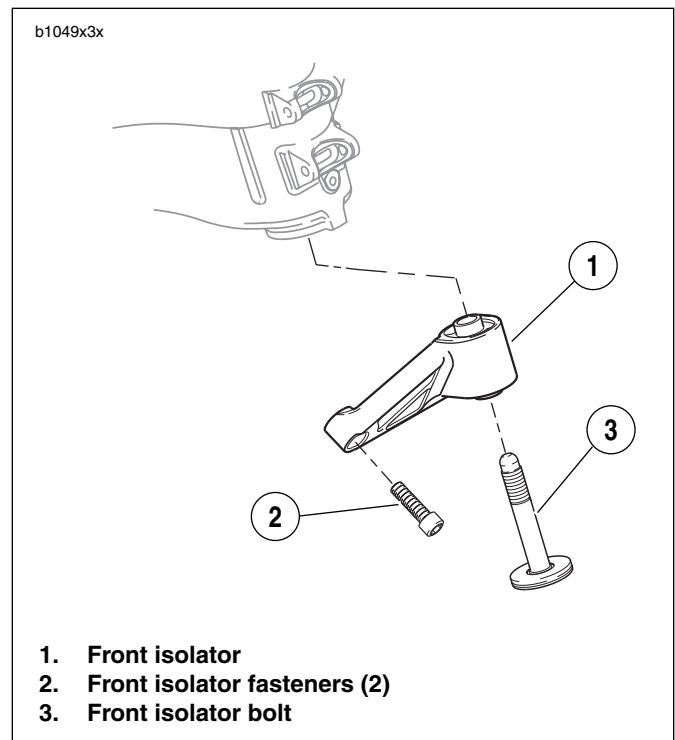

Figure 3-44. Front Isolator
10. See Figure 3-44. Insert front isolator bolt (3) through front isolator (1) and loosely thread into frame. Do not tighten at this point.
11. Install isolator mounting fasteners (2) and tighten to 49-51 ft-lbs (66-69 Nm).